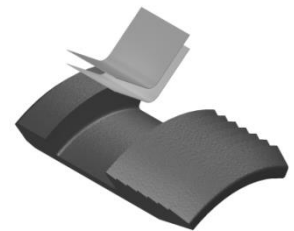

Fig. 2
**NOTE5:** Install two (2ea) springs per slip (Fig. 2).